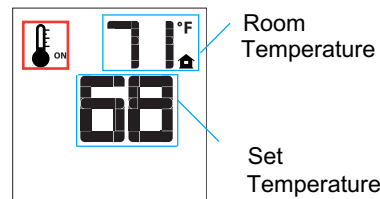

Figure 32 - Remote Control Displaying Room Temperature and Set Temperature
1. To activate this function, press the Thermostat key. The LCD display on the transmitter will change to show that the room thermostat is ON and the set temperature is now displayed (see Figure 32).
2. Adjust the set temperature by pressing the up or down-arrow keys until the desired set temperature is displayed on the LCD screen (see Figure 32).